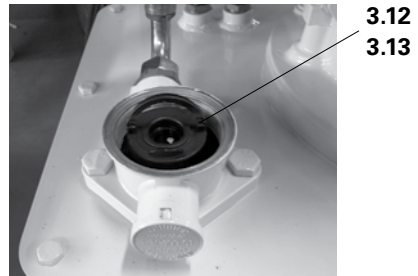

Fig. 24
2. Pull out the lower part of the housing (3.13) including the filter element (3.12) from the head piece. (Fig. 24)